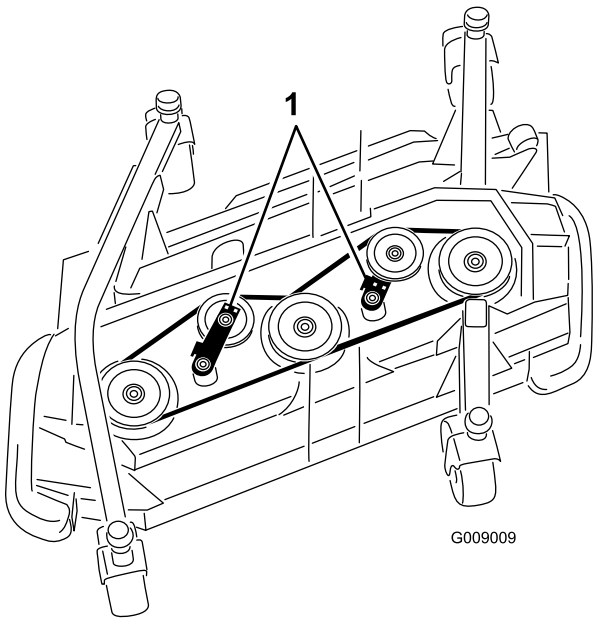

Figure 117
5. Using a ratchet wrench or similar tool, move the idler pulleys away from the drive belt to release the belt tension and allow the belt to slip off the pulleys (Figure 117).